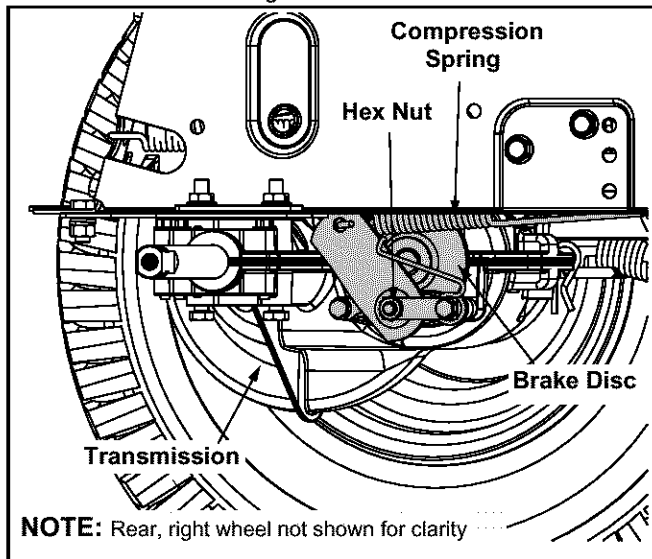

Figure 9
- Looking at the transmission from the right side of the tractor, locate the compression spring and brake disc. See Figure 9.
- Loosen, but do NOT remove, the hex nut found on the right side of the brake assembly. See Figure 9.